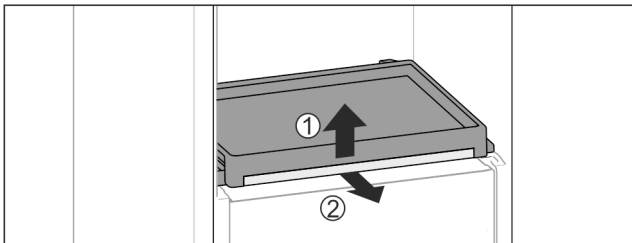

Fig. 108
- ▶ To remove the pull-out board with glass panel: Gently lift the glass panel at the front Fig. 108 (1) and pull out to the front Fig. 108 (2).